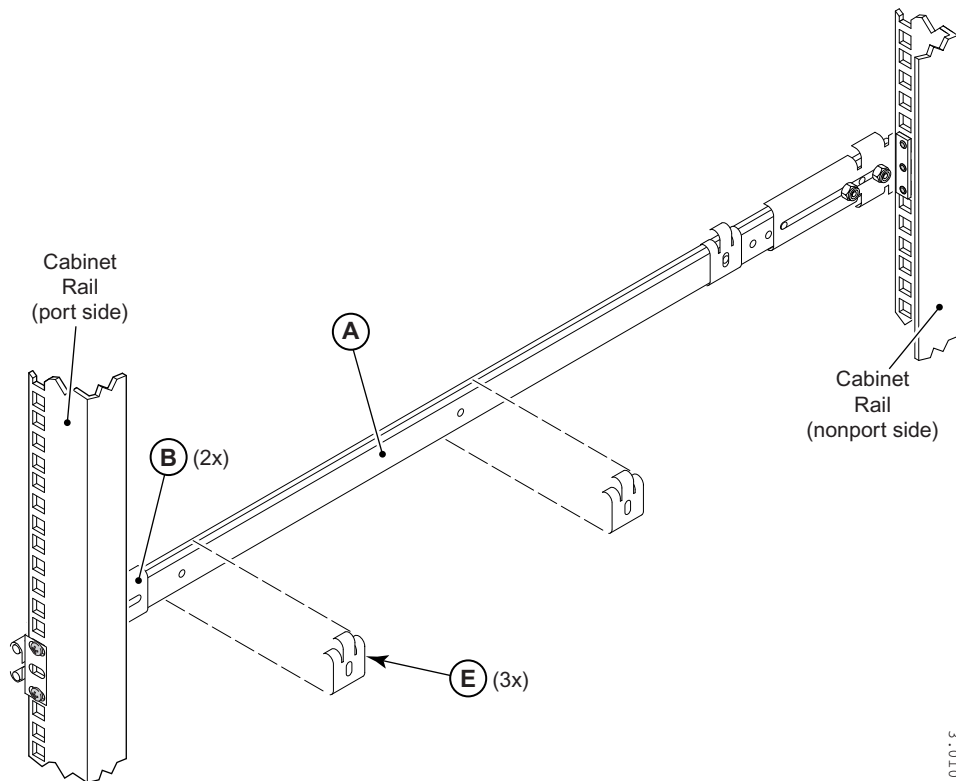

FIGURE 11 Attaching power cord clips
1. Position the power cord clips (Item E) on the outer surface of both outer slide rails (Figure 11).